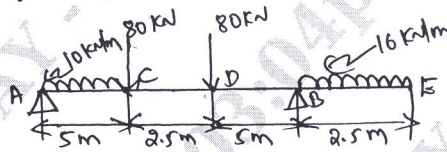

Fig.Q6(b)
b. Draw the Shear force and Bending moment diagram for a beam shown in Fig.Q6(b). Locate point of contraflexure if any.